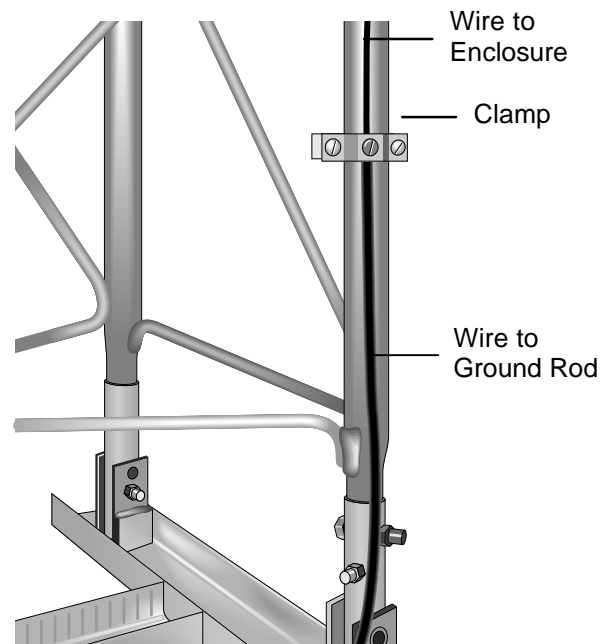

FIGURE 2.1-11. Tower Grounding Clamp
3. Attach the tower grounding clamp to a tower leg (Figure 2.1-11). Route the 4 AWG wire attached to the ground rod up the tower leg to the grounding clamp. Loosen the set screw and insert the 4 AWG wire and the 24 AWG enclosure ground wire into the hole behind the set screw and tighten the set screw. Route the green wire to where the enclosure will be installed.